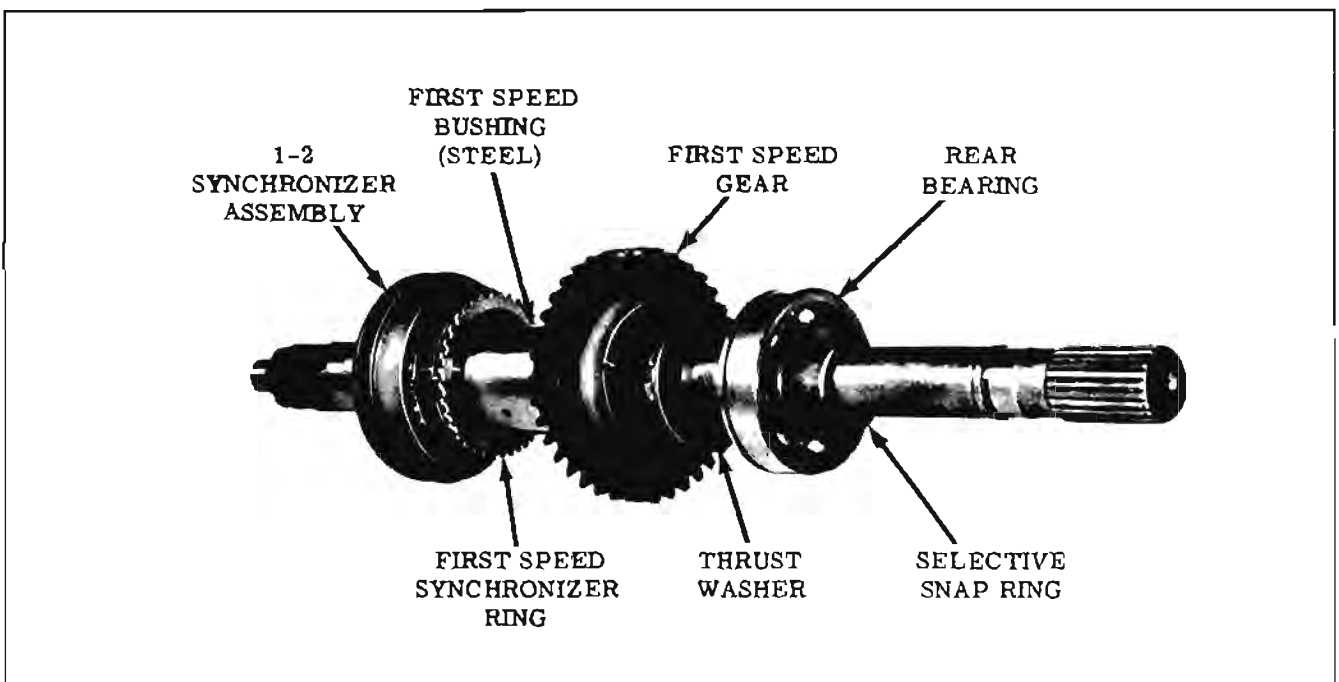

Fig. 11-241 Positioning First Speed Gear and Rear Bearing on Mainshaft
- Install first speed gear with the hub toward the front of the main shaft. Install the first speed gear thrust washer. (Fig. 11-241)